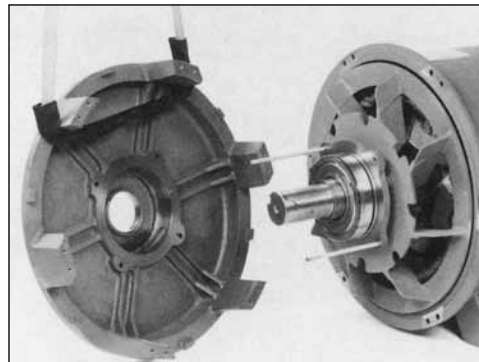

Figure 6-57
- b. For two-bearing generators, insert two guide pins in the rear bearing lock holes (figure 6-57). Fill the grease cavity of the drive end bracket 1/3 to 1/2 full of Mobil® Polyrex® EM grease (or equivalent - see page 17). Assemble all grease plugs in the bracket. Mount the bracket on the bearing and guide the bearing lock pins through the bracket holes (figure 6-58). Align the drive end bracket and mount with the capscrews (figure 6-59). Insert two capscrews with lockwashers into the bearing lock and tighten. Remove the guide pins and replace with the remaining two capscrews with lock washers. Torque bearing capscrews to 25 ft-lb (34 N-m). Torque bracket mounting capscrews per specifications given in section 12.